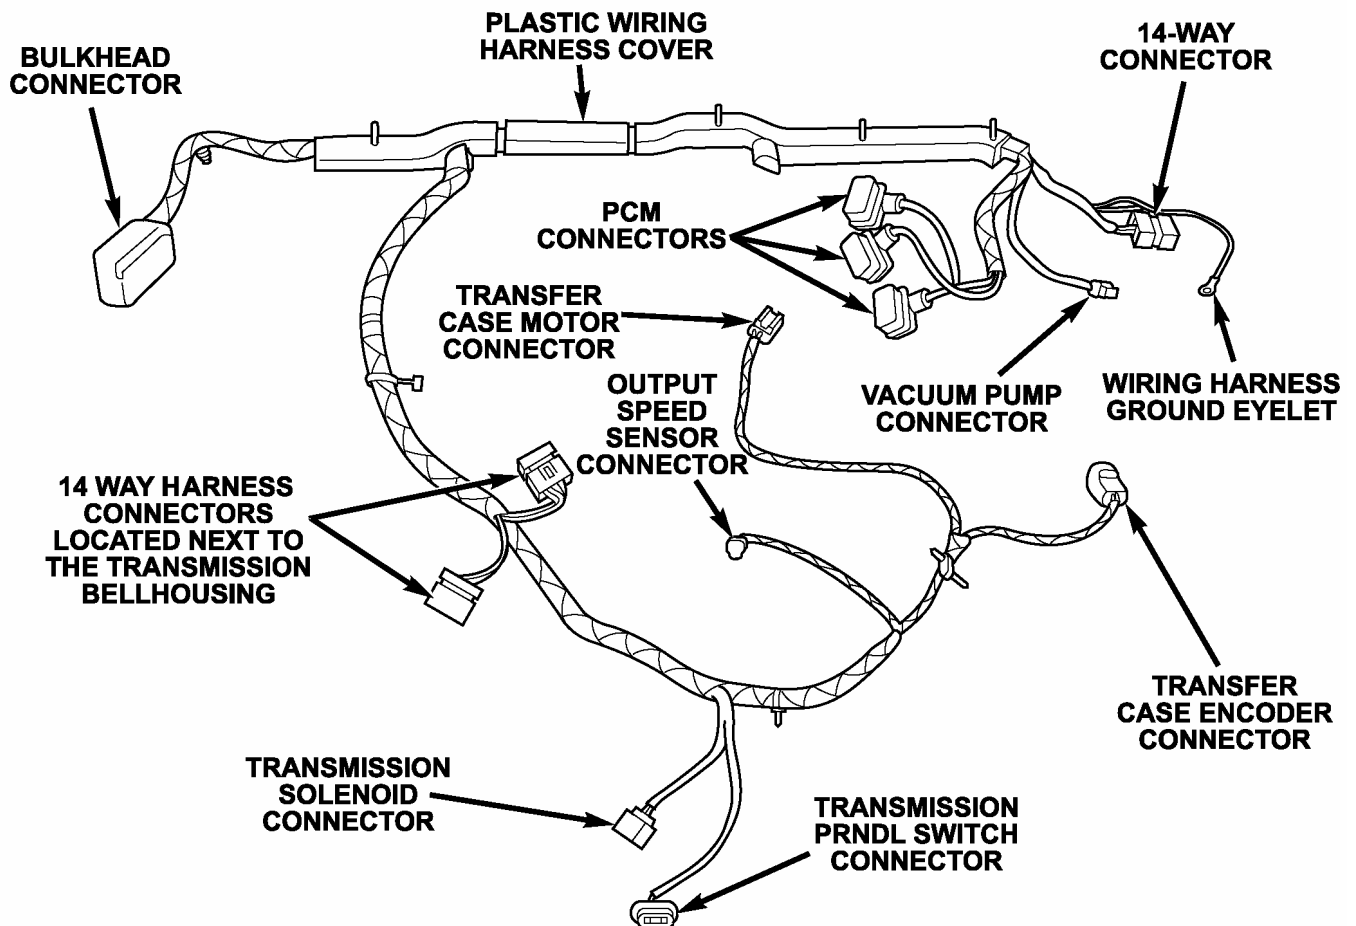

Figure 5 – Wiring Harness for Electric Shift Transfer Case Shown
7. Disconnect the two 14-way connectors located next to the transmission bell housing (Figure 5).
8. Disconnect the PRNDL switch connector (Figure 5).
9. Disconnect the transmission solenoid connector (Figure 5).
10. Disconnect the output speed sensor connector (Figure 5).
11. For trucks equipped with electric shift transfer case, disconnect the electric transfer case motor and encoder connectors (Figure 5).
20. For trucks equipped with electric shift transfer case, connect the electric transfer case motor and encoder connectors (Figure 5).
21. Connect the output speed sensor connector (Figure 5).
22. Connect the transmission solenoid connector (Figure 5).
23. Connect the PRNDL switch connector (Figure 5).
24. Connect the two 14-way connectors located next to the transmission bell housing (Figure 5).